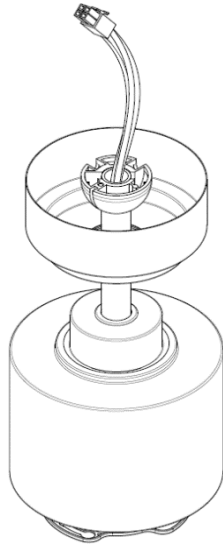

Fig. 4
- Lift the fan assembly onto mounting bracket. Fig. 4